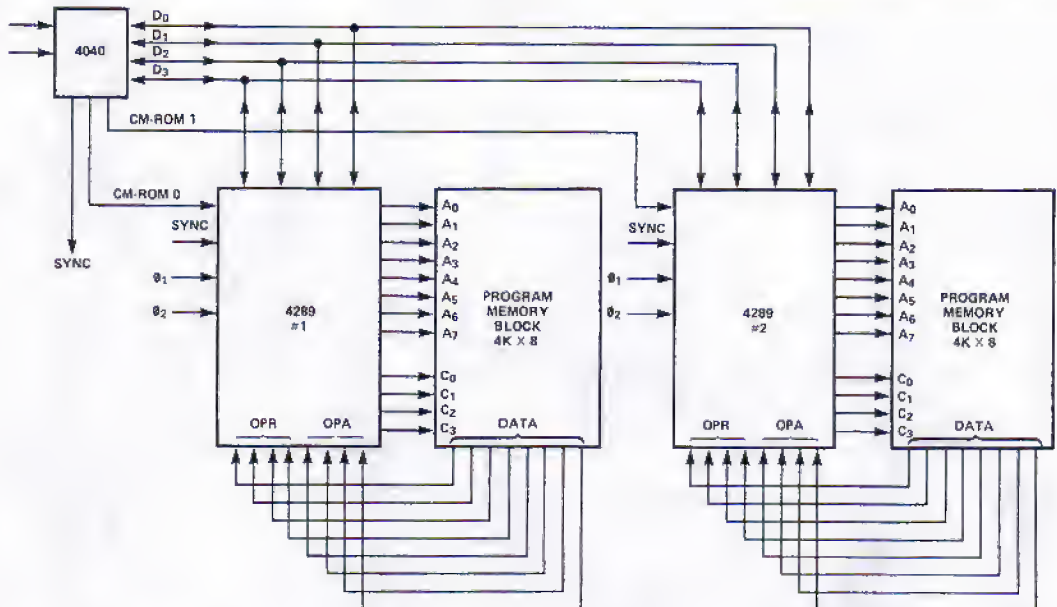

Figure 3. Two Memory Bank System.
3. Two Memory Bank System (Figure 3). Two 4289s are used in this 4040 system giving addressability to a full 8K bytes of PROM memory. In this case each 4289 is controlled from a separate CM-ROM control signal. The CM-ROM₀ and CM-ROM₁ lines are generated by the 4040. This system cannot be implemented with the 4004.